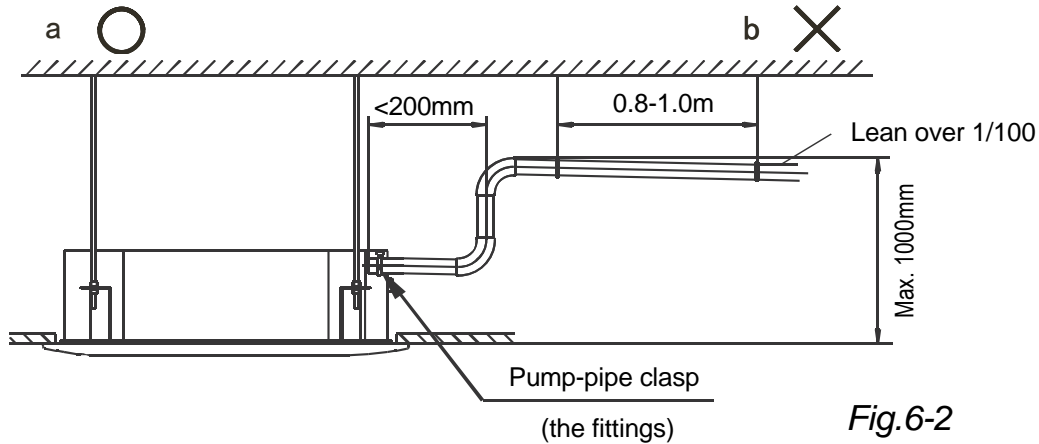

Fig.6-2
- In case the drainpipe outlet is higher than pumping connective pipe of the main body, the drainpipe must be arranged upwards vertically by using connective assembly of the water outlet for vertical bending, and the height of the drainpipe shall set to the defrosting pan surface no more than 1000mm, otherwise, too much backflow while shutdown would leads to overflow (Refer to Fig.6-2).